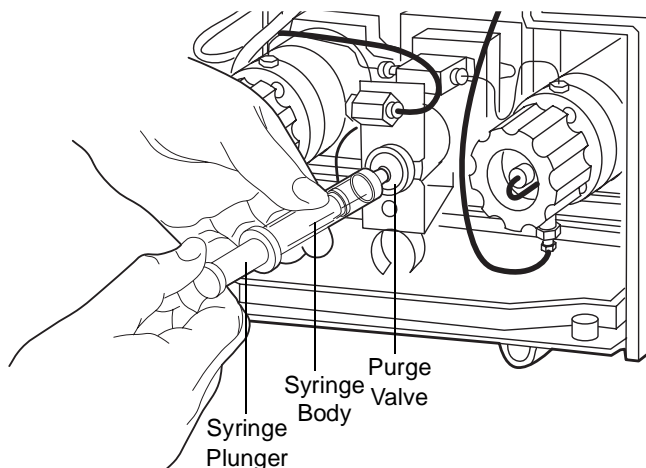

Figure 3-22 Using the Priming Syringe
- b. Connect the priming syringe to the purge valve (Figure 3-22).